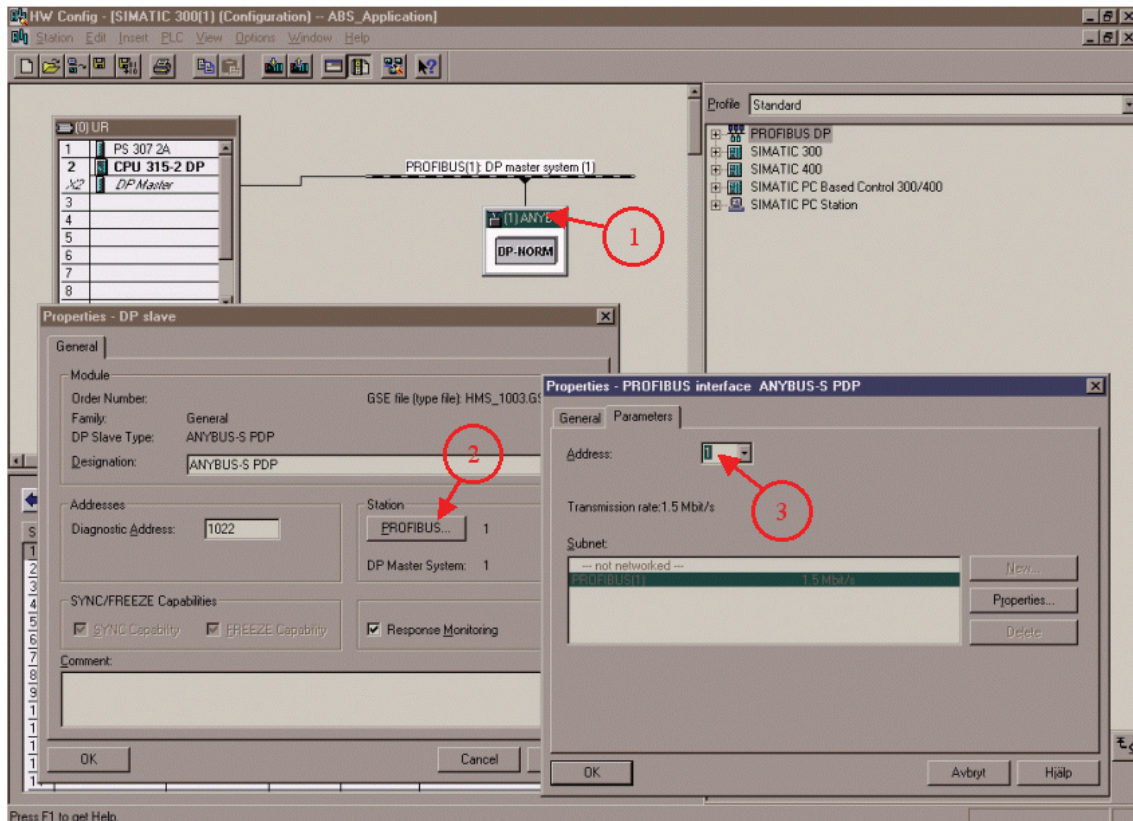

Figure 12 Adjusting the node address in HW Config.
In Figure 12 it is shown how to edit the node address. The edit-window for the node address is opened by doing the click sequence ①, ②, ③. At ③ it is possible to set the desired node address. The address set here must equal the address set on the Anybus-S module, see the chapter 1.1 Anybus module setting.